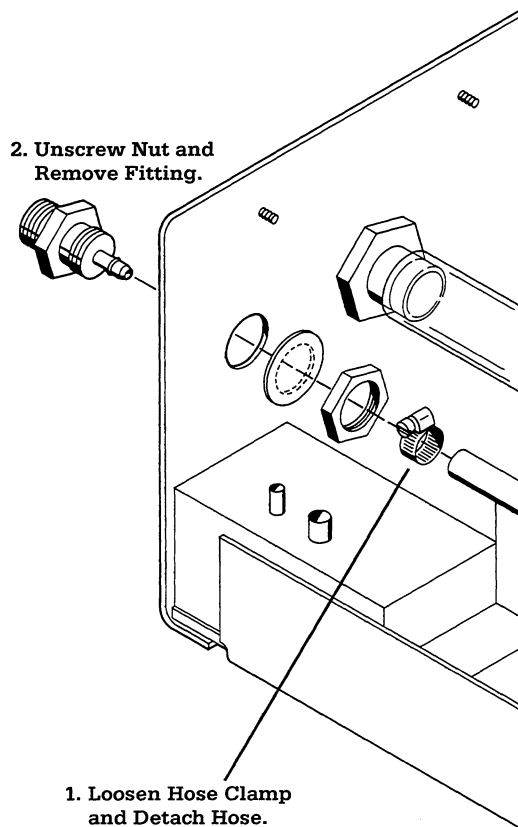

Figure 4-13
5. Remove the rear panel gas supply inlet connector, (Figure 4-13).